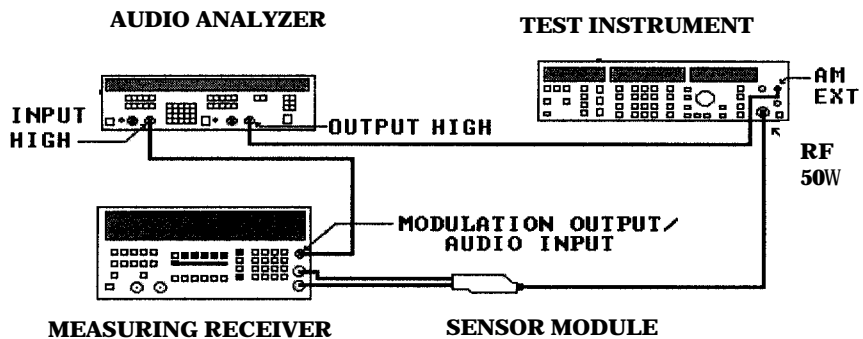

Figure 7. AM modulation.
- (1) Connect equipment as shown in figure 7.